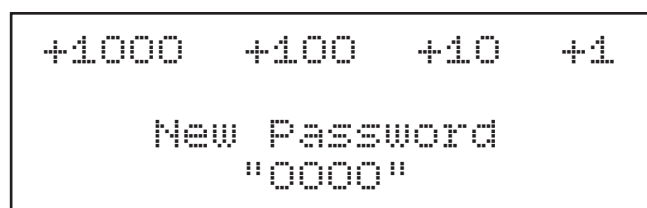

Figure 124. Editing password settings.
2. Press spindle speed dial to enter Set Password submenu (see **Figure 124**).
3. Use F1–F4 Function Buttons to modify New Password (see **Figure 124**) as follows: